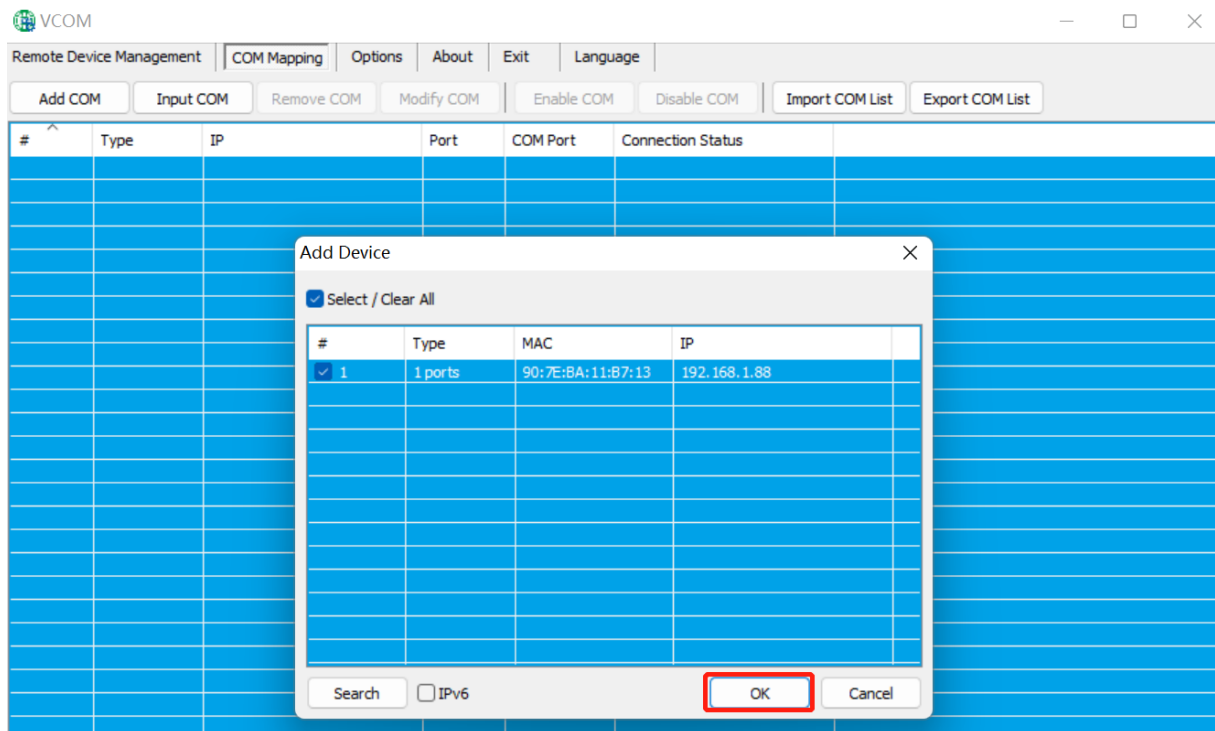

Figure 8
- The "Add Device" window appears, select the device and click "OK" as shown in Figure 8 below